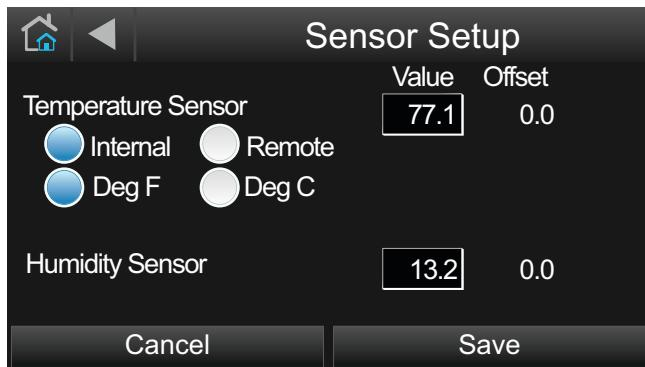

Fig. 10 – Sensor Setup Menu Screen
3. Select “Internal” and “Deg F” as shown in Fig. 10.